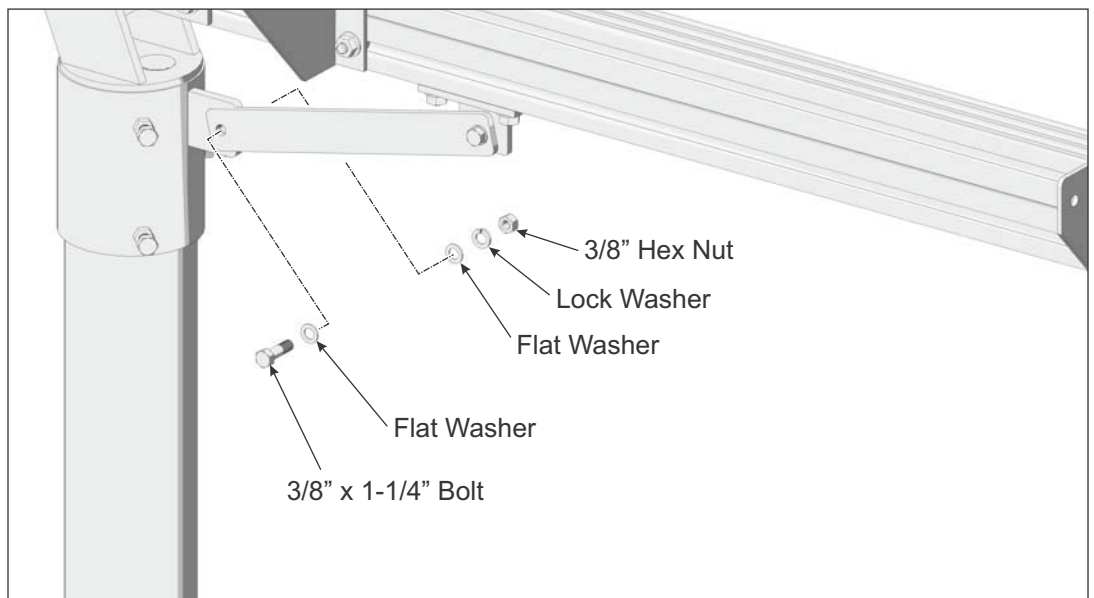

Figure 4-3: Securing Support Bar to Mounting Sleeve
- G. Slide the Support Bar Mounting Tab to align the mounting holes of the Support Bar with its Pivot Tab on the Mounting Sleeve. Slide the Support Bar over the Pivot Tab. Insert the 3/8" x 1-1/4" bolt and one flat washer thru the Support Bar and Mounting Tab and secure it with the remaining flat washer, lock washer and hex nut. **Torque hardware on both ends of Support Bar at 32-34 ft.-lbs. Torque the 3/8" Flange Nuts at 32-34 ft.-lbs.** (See Figure 4-3)